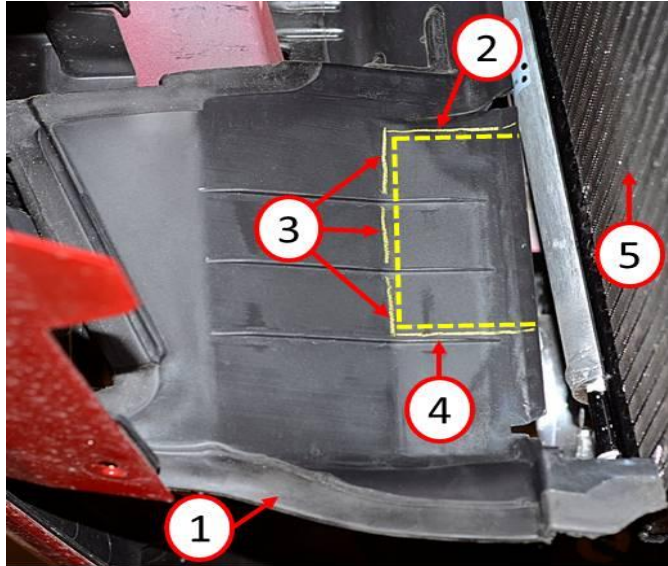

**Fig. 2 Condenser Preperation**
6. Carefully remove the lower plastic shroud that covers the bottom gap between the radiator and condenser by using a pick to pull the cover hole away from the retaining tabs (1) along the edge (Fig. 2).
7. Viewing the condenser from the front of the vehicle count 12 rows up the passenger side of the condenser from the bottom of the condenser core and mark (2) the location of the 12th row (Fig. 2).
8. Measure out from the passenger side edge (2) of the condenser core 2-1/8”(54mm) and mark the location in the 12th row of the condenser.
9. Viewing the condenser from the front of the vehicle count 8 rows up the driver side of the condenser from the bottom of the condenser core and mark (3) the location of the 8th row (Fig. 2).
10. Measure out from the passenger side edge (2) of the condenser core 21”(532mm) and mark the location in the 8th row of the condenser.